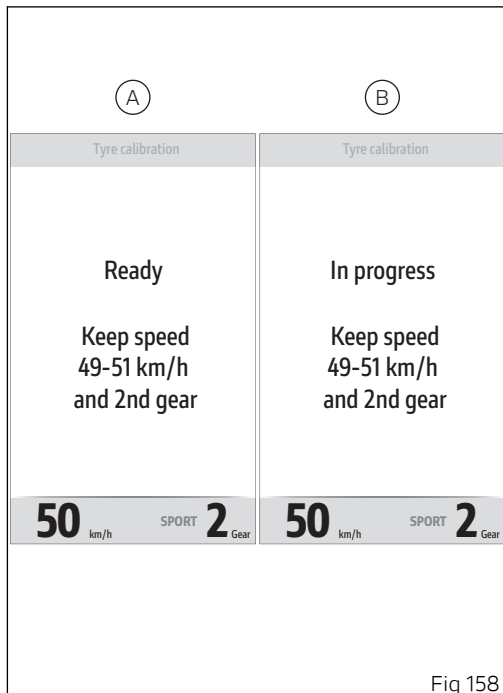

Fig 158
The procedure can be aborted by holding button (1) pressed for a long time: in this case the instrument panel displays all previous information, replacing message "In progress" (B, Fig 158) with message "Aborted" (D) followed by the previous menu after a few seconds.